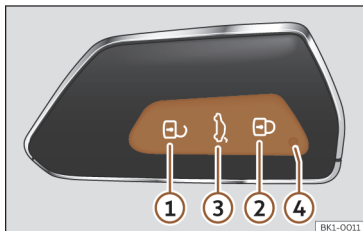

Fig. 67 Vehicle key
When a button is pressed briefly on the vehicle key, the control lamp ④ >>> Fig. 67 flashes once briefly, but if pressed for a long period of time, it will flash several times, for example, in the convenience opening.